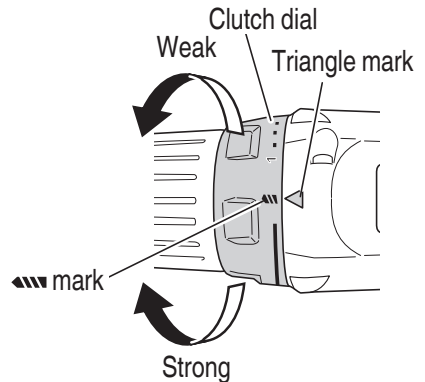
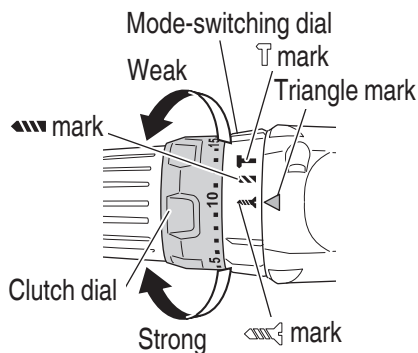

Fig. 12
Fig. 15
6. Confirm the clutch dial position (See **Fig. 12**)
(2) Tightening torque indication (See **Fig. 12 on page 38, Fig. 15 on page 39**)
(3) Adjusting the tightening torque (See **Fig. 12 on page 38, Fig. 15 on page 39**)